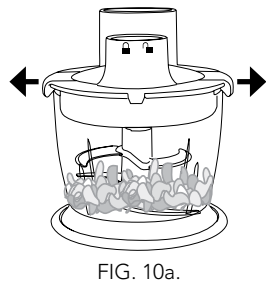

FIG. 10a.
- Remove the lid by pulling out the locking clips on either side of the lid as illustrated in Fig. 10a and 10b.